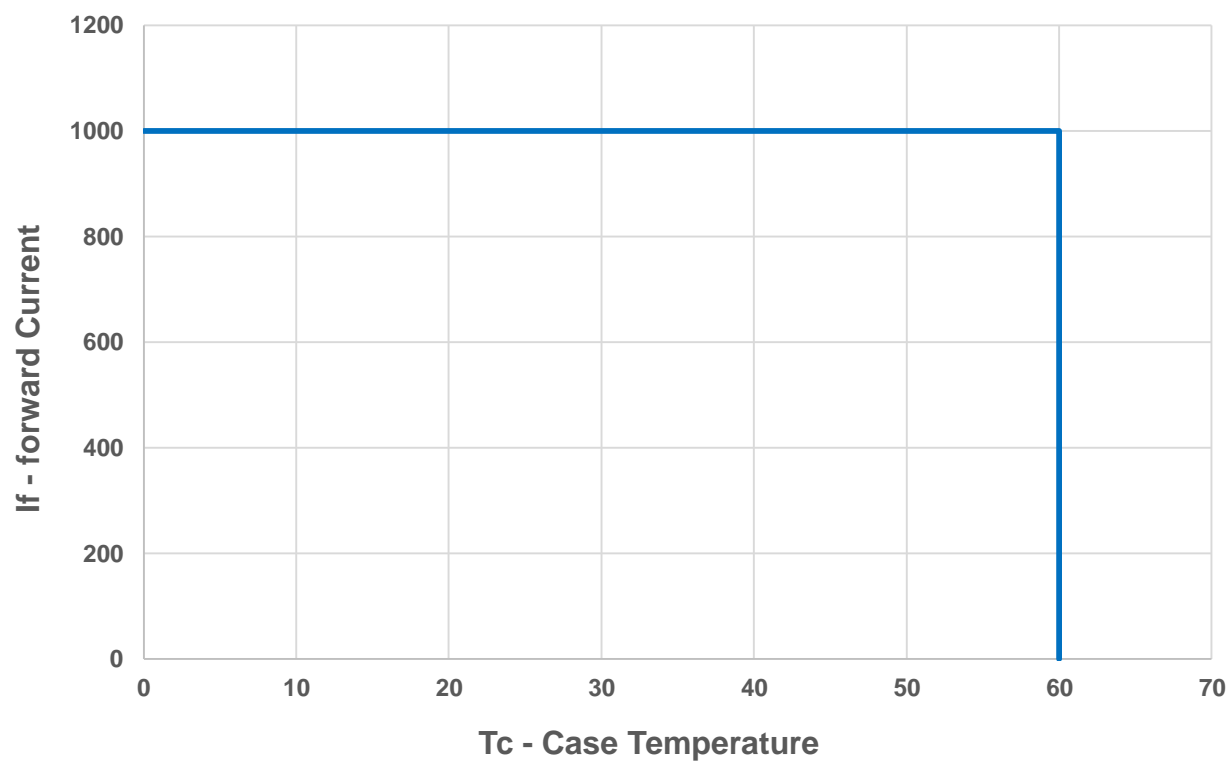

Figure 11: Maximum forward current vs. case temperature
- Maximum DC forward current is determined by the overall thermal resistance and ambient temperature. Follow the curves in Figure 11 for current derating.
Notes for Figure 11: